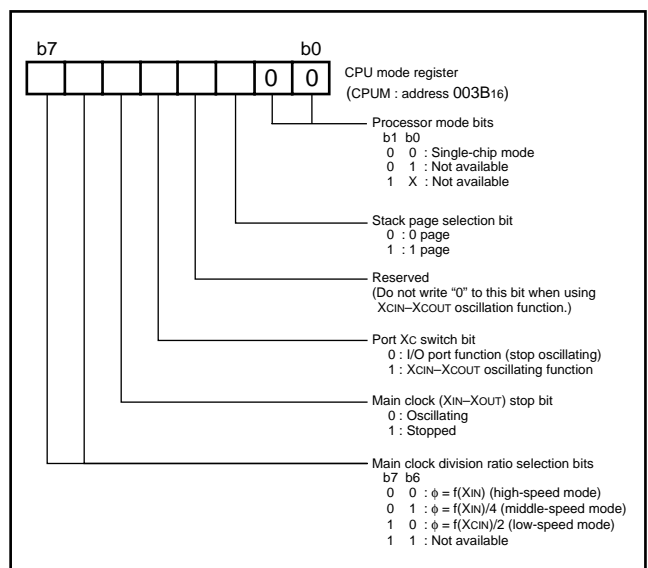

Fig. 100 CPU mode register bit configuration in CPU rewriting mode
Figure 100 shows the CPU mode register bit configuration in the CPU reprogramming mode.
- ① Apply 0 V to the CNVss/VPP pin for reset release.
- ② Set the CPU mode register. (see Figure 100)
- ③ After CPU reprogramming mode control program is transferred to internal RAM, jump to this control program on RAM. (The following operations are controlled by this control program).
- ④ Set "1" to the CPU reprogramming mode select bit.
- ⑤ Apply VPPH to the CNVss/VPP pin.
- ⑥ Wait till CNVss/VPP pin becomes 12 V.
- ⑦ Read the CPU reprogramming mode monitor flag to confirm whether the CPU reprogramming mode is valid.
- ⑧ The operation of the flash memory is executed by software-command-writing to the flash command register .